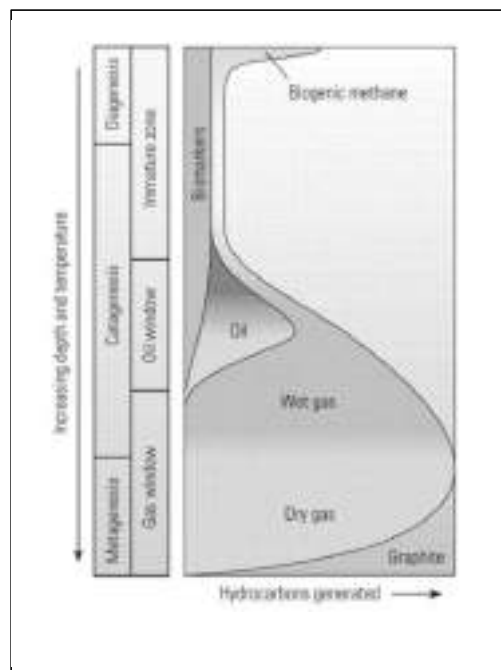

Fig.3 : Hydrocarbons generation
**In geology:** the physical, chemical or biological alteration of sediments into sedimentary rock at relatively low temperatures and pressures that can result in changes to the rock's original mineralogy and texture. After deposition, sediments are compacted as they are buried beneath successive layers of sediment and cemented by minerals that precipitate from solution. Grains of sediment, rock fragments and fossils can be replaced by other minerals during diagenesis. Porosity usually decreases during diagenesis, except in rare cases such as dissolution of minerals and dolomitization (Fig.3).
The physical and chemical alteration of sediments and pore fluids at temperatures and pressures higher than those of diagenesis. Catagenesis involves heating in the range of 50 to 150 degC [122 to 302 degF]. At these temperatures, chemical bonds break down in kerogen and clays within shale, generating liquid hydrocarbons. At the high end of this temperature range, second ary cracking of oil molecules can generate gas molecules ( Fig.3).